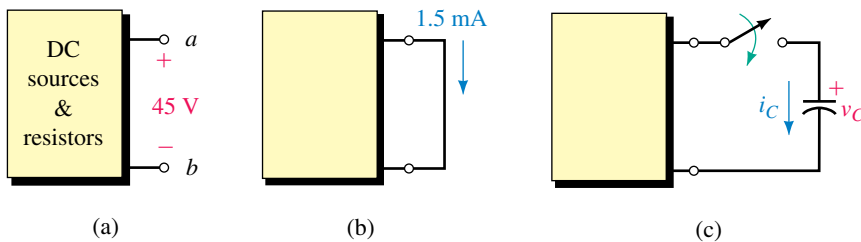

FIGURE 11-62
36. A black box containing dc sources and resistors has open-circuit voltage of 45 volts as in Figure 11-62(a). When the output is shorted as in (b), the short-circuit current is 1.5 mA. A switch and an uncharged 500- μF capacitor are connected as in (c). Determine the capacitor voltage and current 25 s after the switch is closed.